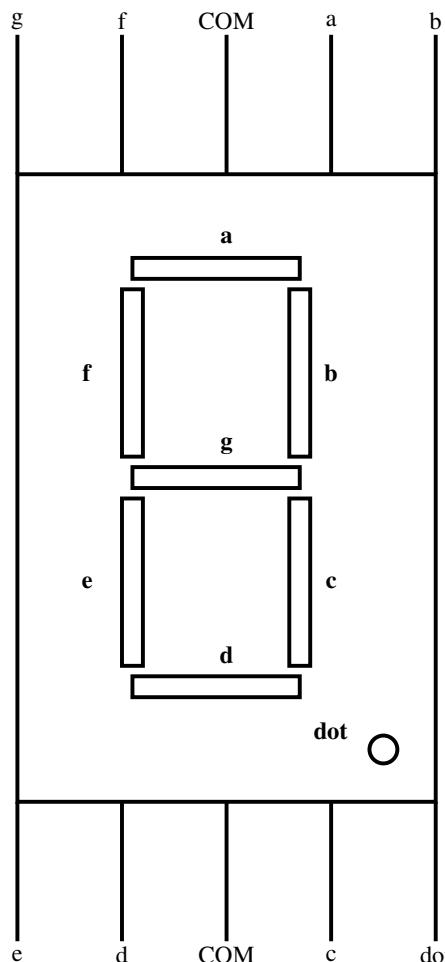

Fig. 2.2: Seven Segment pins
2. Seven Segment Display: The seven segment display in Fig. 2.2 has eight pins, a, b, c, d, e, f, g and *dot* that take an active LOW input, i.e. the LED will glow only if the input is connected to ground. Each of these pins is connected to an LED segment. The *dot* pin is reserved for the · LED.
1. Make connections between the seven segment display in Fig. 2.2 and the 7447 IC in Fig. 3.1 as shown in Table 3.1